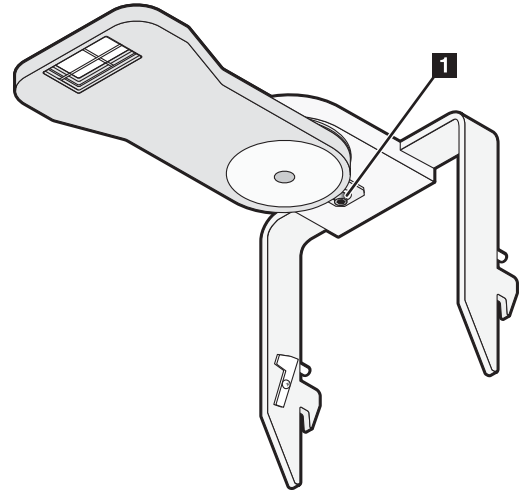

Figure 4-9: Adjustment Lock Screw
2. Loosen the adjustment lock screw on the bottom of the Crosshair Device. See Figure 4-9 No. 1.